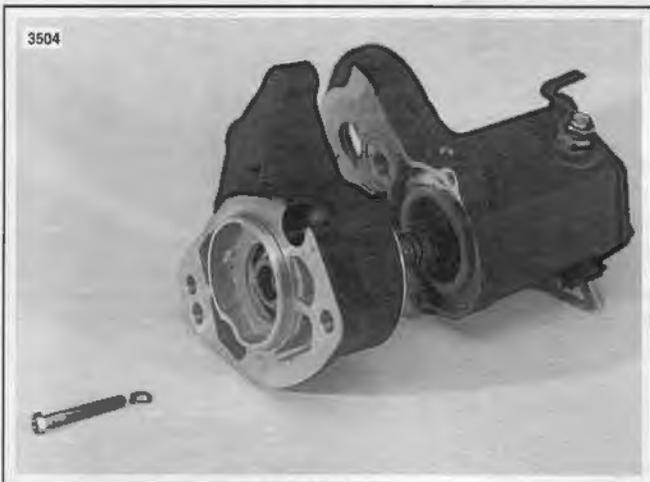

Figure 5-23. Remove Drive Housing
17. See Figures 5-23 and 5-24. Remove the two drive housing mounting screws (11) and washers (12). Remove drive housing (13) from solenoid housing (14).